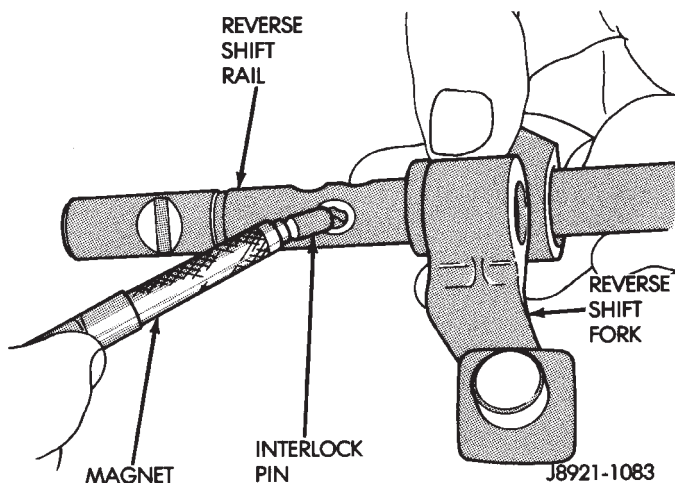

Fig. 82 Install Reverse Shift Rail Interlock Pin
(10) Install interlock pin in reverse shift rail (Fig. 82).